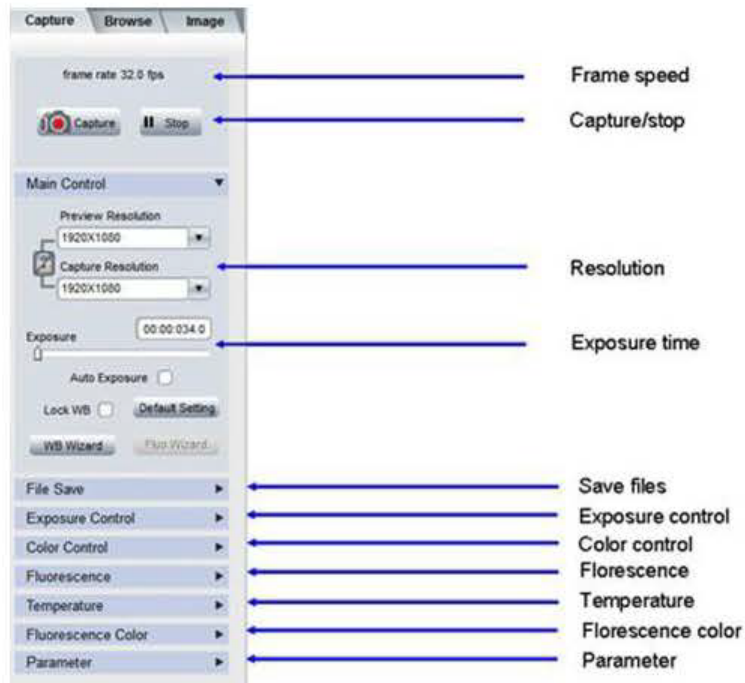

Fig.4-1. The left side of TCapture
(1) Start the TC. The parameter settings are shown on the left side of the software. See Fig.4-1.